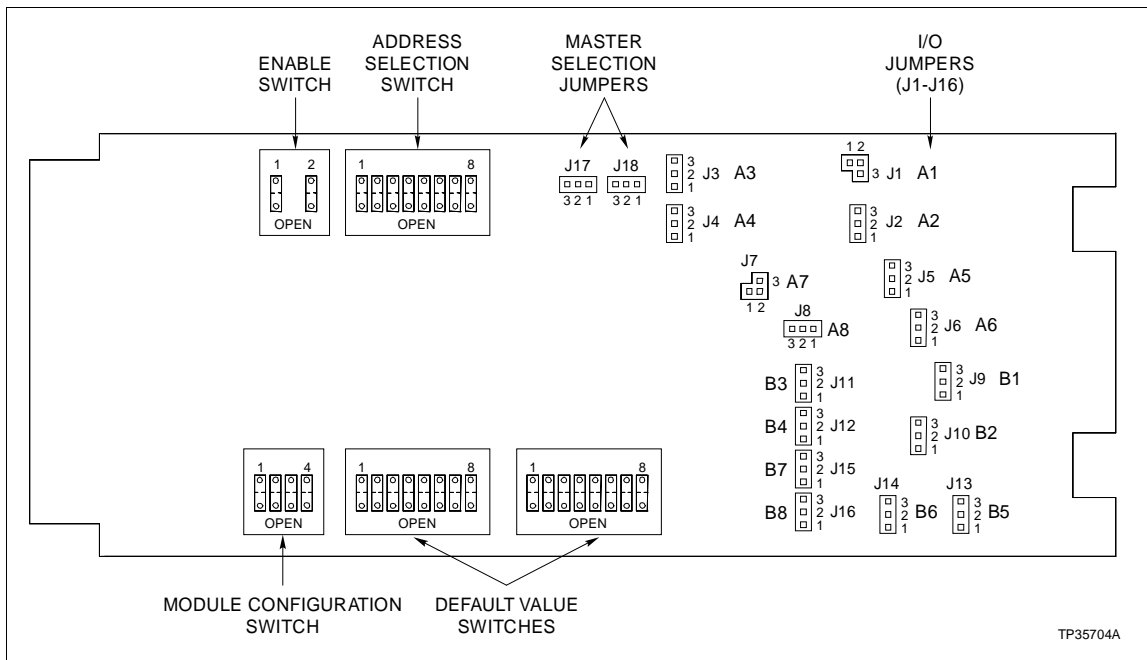

Figure 3-1. Switches and Jumpers
Prior to installation, set the address of the DSM and install jumpers to configure the digital outputs and inputs. Be sure you configure the termination unit (TU) or termination module (TM) to accept the field device signals. Figure 3-1 shows the 5 switches and 18 jumpers to set on the DSM. The module switches and jumpers are: